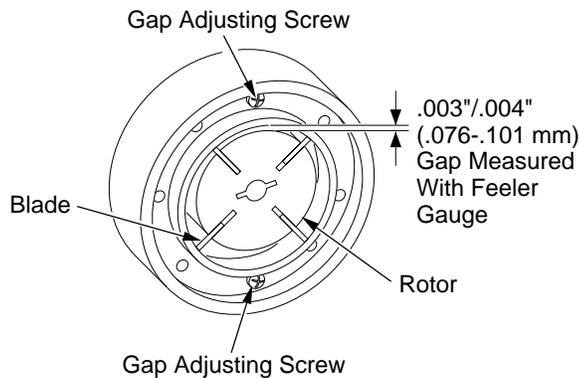

Figure 25 - Gap Adjusting Screw Locations
9. Check gap on rotor. Adjust to $.003"/>.004$ " if needed (see Figure 25).